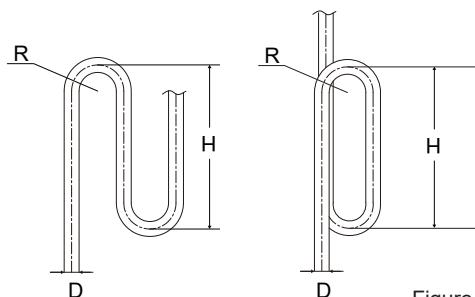

Figure 4.8
- Install the indoor units such that they are as equidistant as possible on both sides of the U-shape branch joint. When the outdoor unit is above the indoor unit, and the level difference exceeds 20 m, it is recommended that an oil return bend be set up at every 10 m interval on the gas pipe of the main piping. The recommended specifications of the oil return bend are shown in Figure 4.8.
Requirement 3: The largest level difference between indoor unit and outdoor unit should not exceed 110m (if the outdoor unit is above) or 110m (if the outdoor unit is below). Additionally: (i) If the outdoor unit is above and the level difference is greater than 20m, it is recommended that an oil return bend with dimensions as specified in Figure 4.8 be set every 10m in the gas pipe of the main pipe; and (ii) if the level difference is more than 40m (outdoor unit is below) or 50m (outdoor unit is above), the size of the main pipe (L1) should be increased as Table 4.7.